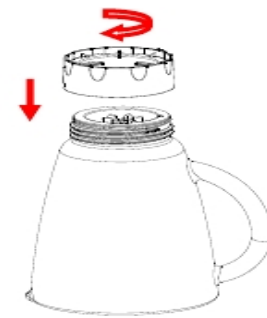

Fig. 4
- 2) Holding the jar handle, put the jar base onto the jar bottom and secure the jar base by turning it clockwise until tight (See Fig.4).